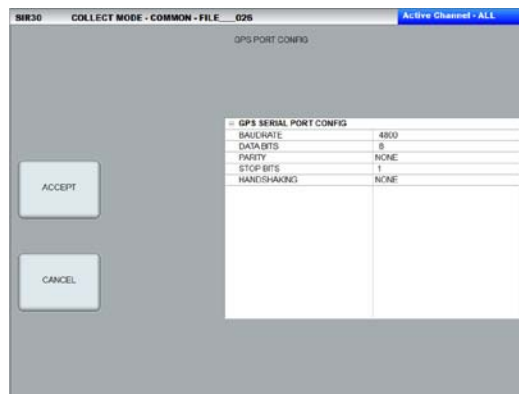

Figure 23: GPS Port Config.
- 9** Select RADAR CONFIG > POSITIONING > CONFIGURE GPS. You will see the screen shown in Figure 23.
- 10** The five options shown in Figure 23 have pull-down menus. Change these settings to match the settings on your GPS. GSSI most likely does not have experience with your particular type of GPS, so it is up to you to locate and understand these settings within your GPS device.